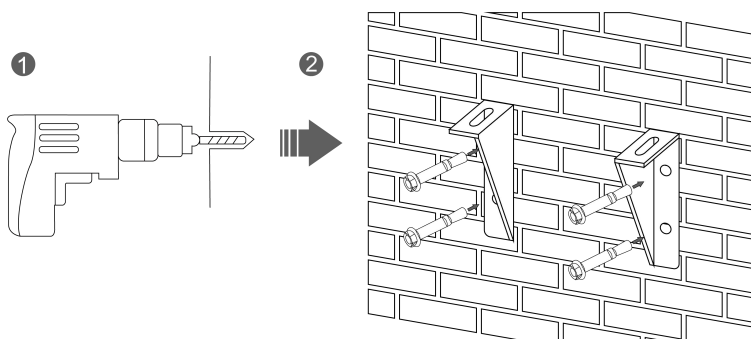

Figure 4-3
- b. Choose the recommend drill head (as shown in Figure 4-3) to drill 4 holes on the wall, 100mm-110mm deep.
- c. Use a hammer to secure the support to the wall, and install the expansion bolt in the hole, as shown in Figure 4-3.